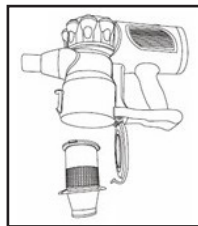
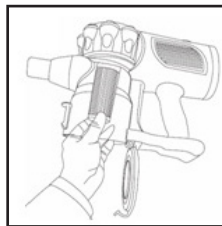
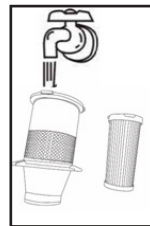

Abb. 2
Abb. 3
Abb. 4
- Preliminarily remove dust and garbage from the dust bin (8) as described above.
- Turn the separator (11) counterclockwise and remove it (fig. 2).
- Clean the separator (11) from dust and garbage.
- Turn the HEPA filter (10) counterclockwise and remove it (fig. 3).
- Clean the HEPA filter (10) from dust and garbage.
- Wash the separator (11) and the HEPA filter (10) under a warm water jet and dry them (fig. 4).
- Dry the separator (11) and the HEPA filter (10) thoroughly.
- Do not dry the HEPA filter (10) with a hairdryer or similar appliances.
- Wipe the inner surface of the dust bin (8) with a slightly damp cloth.
- Insert the HEPA filter (10) into the dust bin (8) and turn it clockwise until bumping.
- Insert the separator (11) into the dust bin (8) and turn it clockwise until bumping.
- Close the lid (12) until the lock (9) clicks.
**Attention!** Before assembling the dust bin (8) make sure that the separator (11) and the HEPA filter (10) are dry.